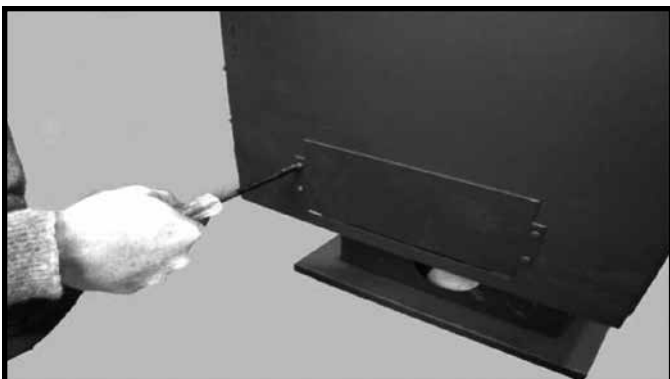

Figure 10: Remove the cover plate.
1. Remove the 4 screws and cover plate from the rear shield on the stove (Figure 10).